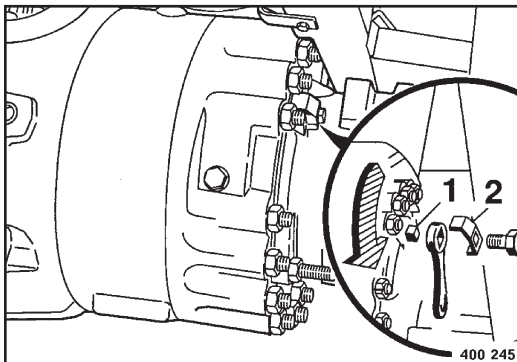

Fig. 168
- Unscrew the locking plate 2 (Fig. 168).
- Turn the square (1) in anti-clockwise direction against the end stop.